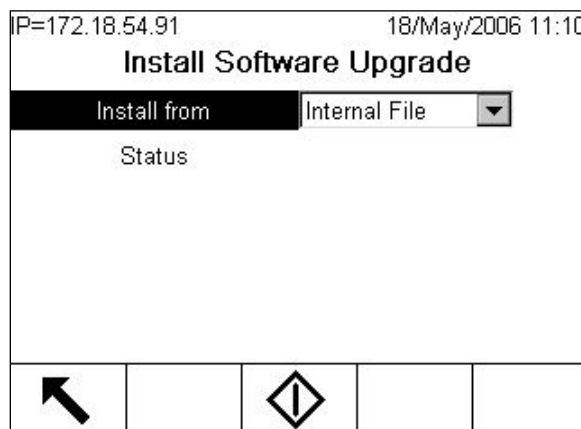

Figure 3-2: Firmware Upgrade Screen
5. Use the arrow keys to move focus to **Maintenance > Run > Install Software Upgrade**. When the node is in focus, press ENTER. The screen shown in Figure 3-2 will appear.